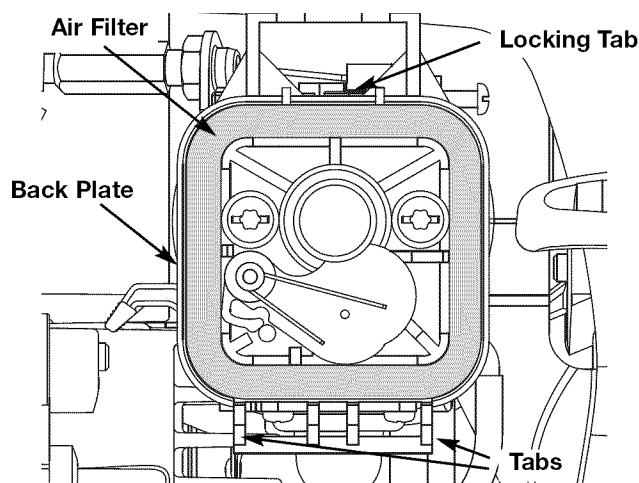

Fig. 19
2. Remove the air filter (Fig. 19).
6. Replace the filter (Fig. 19).
7. Reinstall the air filter cover. Position the slots on the bottom of the air filter cover onto the tabs at the bottom of the back plate (Figs. 19).